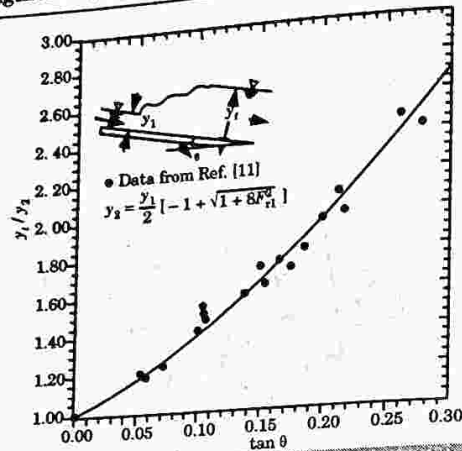

Fig. 3.12.2. Variation of y_2/y_1 in jumps on a sloping floor.
- The variation of (y_2/y_1) with $\tan \theta$ is shown in Fig. 3.12.2. By definition $(y_2/y_1) = 1.0$ when $\tan \theta = 0$ and it is seen from Fig. 3.12.2 that (y_2/y_1) increases with the slope of the channel having typical values of 1.4 and 2.7 at $\tan \theta = 0.10$ and 0.30 respectively.
The best fit line for the variation of (y_2/y_1) with $\tan \theta$ shown in Fig. 3.12.2, can be expressed as